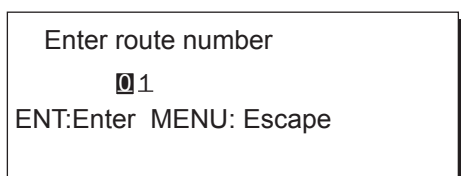

Figure 5-5
- 5) Press the **NU/CU ENT** key to finish. The route number entry display appears as shown in Figure 5-5. If no route number appears or you want to change the route number shown, go to step 6 to enter route number. To register the route under the number shown, go to step 8.